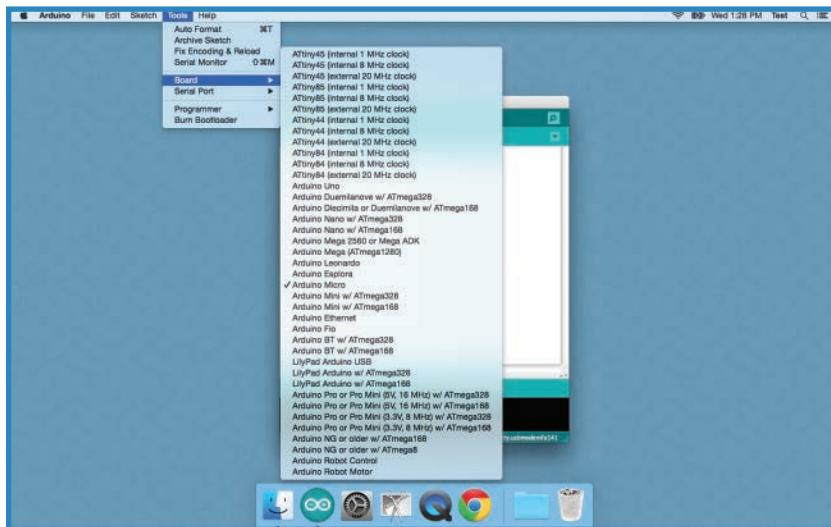

FIGURE 5.7 Select your Arduino from the list.
- 3.** Go into Tools, Boards and select your Arduino from the list, as shown in Figure 5.7.